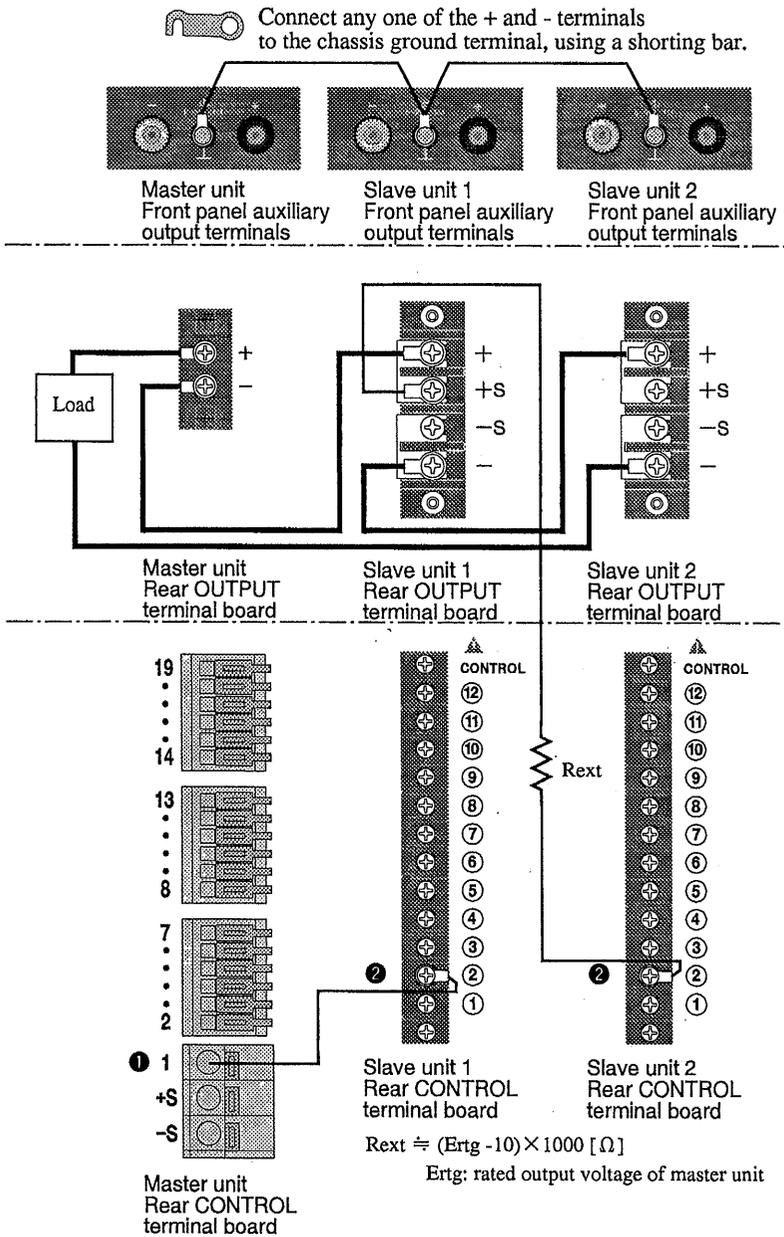
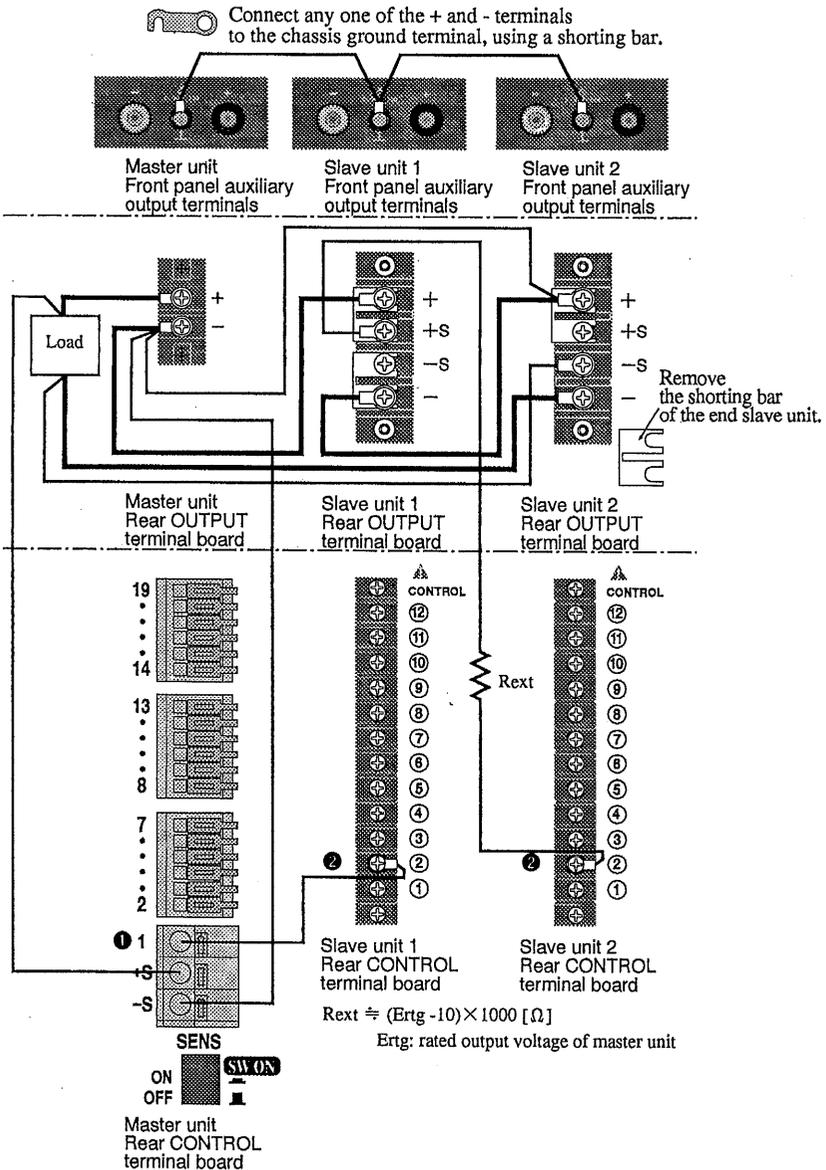

Fig. 3-14D Connection for master-slave-control series operation (When the PAN-A and PAN series are used together)
Fig. 3-14E Connection for master-slave-control series operation using sensing (When the PAN-A and PAN series are used together)
To combine the PAN-A and PAN series, see Fig. 3-14D. When remote sensing must be performed, see Fig. 3-14E.
- When carrying out master-slave-control series operation with the PAN16-50A and PAN16-50 combined, refer to Fig. 3-14D for connection of the CONTROL terminal board.